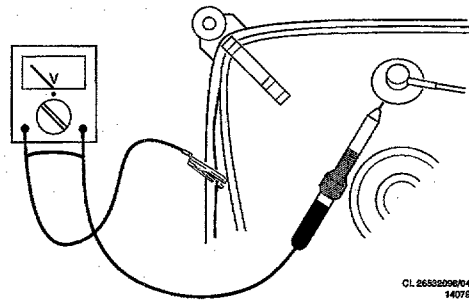

Fig. 3.1
2. In order to prevent damage to ICs and transistors, all high-voltage flashovers must be avoided. In order to prevent damage to the picture tube, it should be discharged using the method shown in Fig. 3.1. Use a high-voltage probe and a multimeter (position DC-V). Discharge until the meter reading is 0V (after approx. 30s).